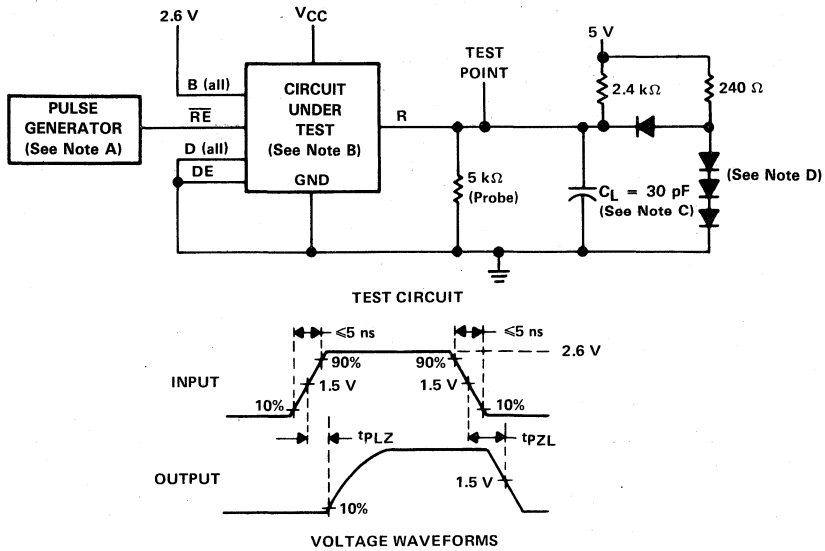

FIGURE 3. RECEIVER ENABLE AND DISABLE TIMES
- NOTES: A. The pulse generator in Figures 3 and 4 has the following characteristics: PRR ≤ 5 MHz, duty cycle = 50%, $Z_0 \approx 50 \Omega$.